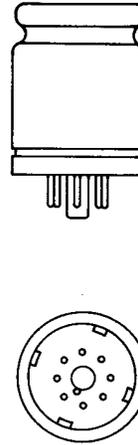

Fig. 3—427A Plug
2.03 **427A:** The 427A plug (Fig. 3) consists of a metal can equipped with a small 8-pin octal electron tube base. Terminals 1, 2, 8, and 7 are internally strapped; and terminals 3, 4, 5, and 6 are internally strapped. The 427A plug is used in the equalizer position in the N2 Carrier Wideband Modem.